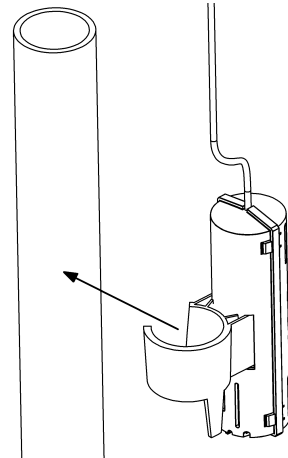

Figure 1
- 3) Snap sensor over the discharge pipe of your sump pump as shown in **Figure 1**.